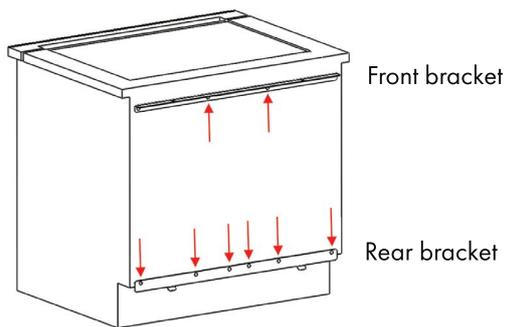

Figure 4
2. Remove the screws from the front bottom of your microwave. Using two of those screws, secure the front bracket to the bottom of the microwave, ensuring the lip of the bracket is extending down and facing you. Next, remove the screws from the back bottom of the microwave and fasten the rear bracket, ensuring the two small lips are extended down and facing back (see Figures 4 and 5).